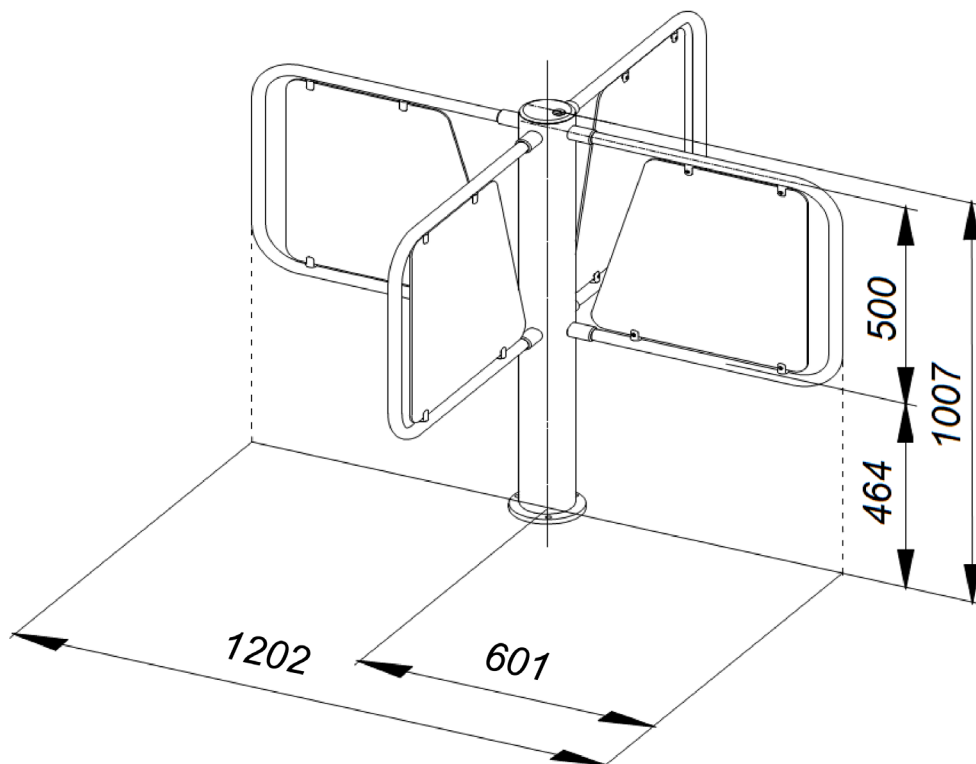
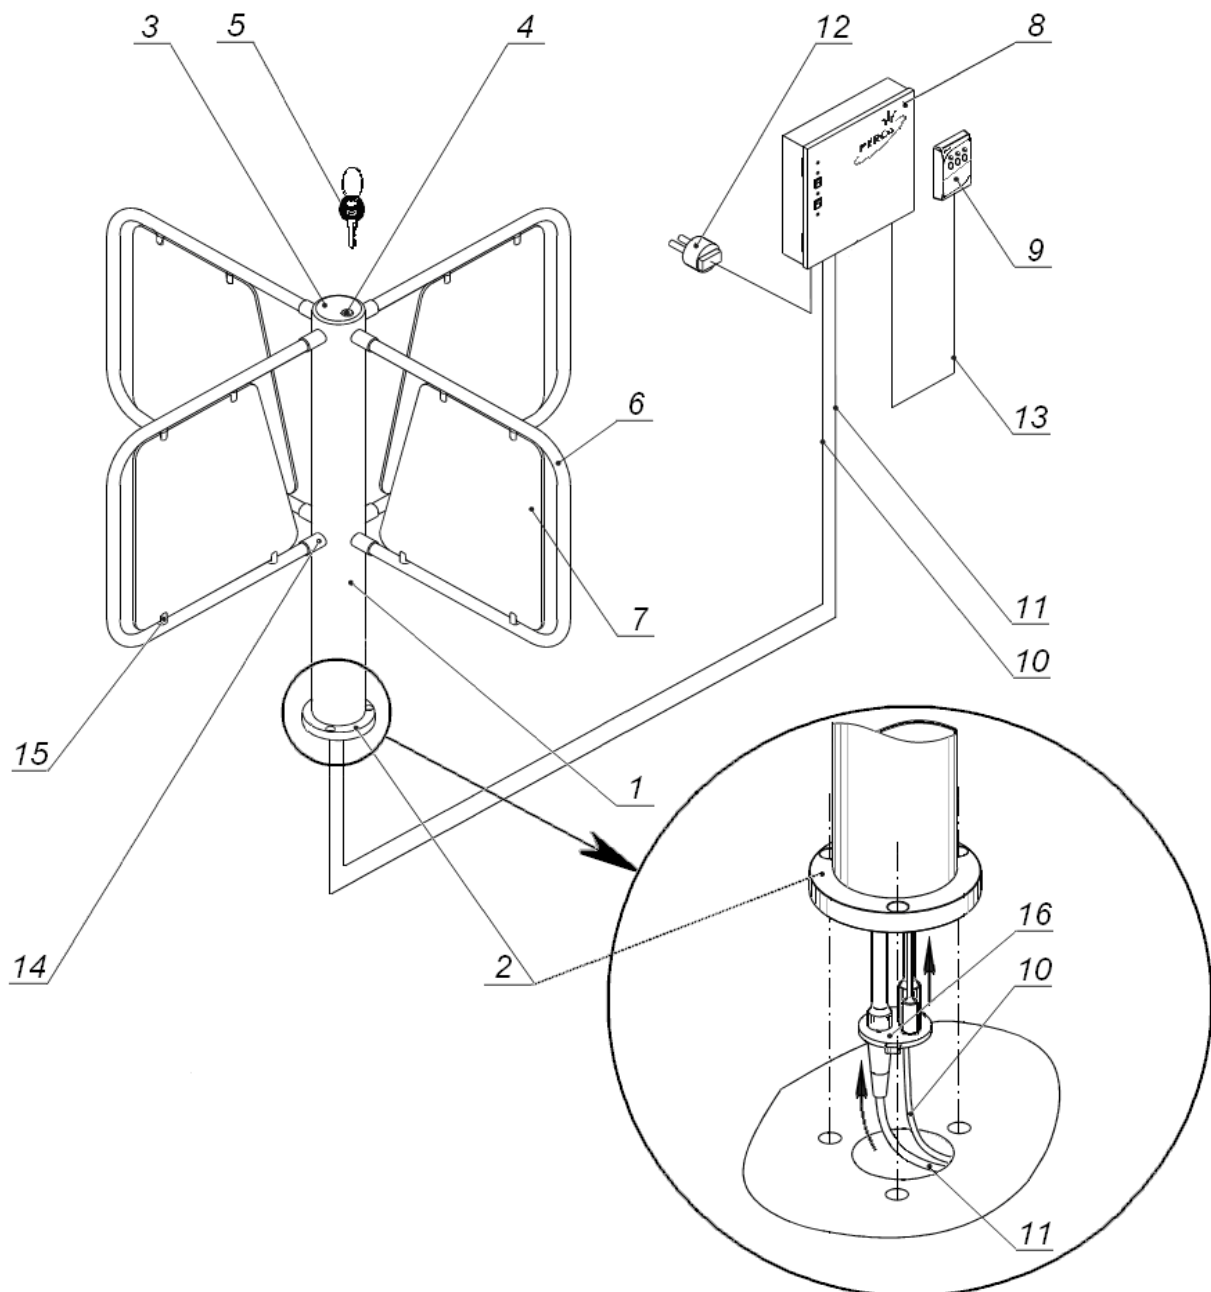

Figure 1. Dimensions of the RTD-03S waist-high rotor turnstile
Figure 2. RTD-03S waist-high rotor turnstile overall view
Turnstile overall dimensions, see Fig. 1, (length × width × height)	1202×1202×1007 mm
The turnstile overall dimensions are given in Fig. 1. The design of the turnstile is shown in Fig. 2. Numbers in brackets correspond to Fig. 2.
The control unit (CU) (8) (see Fig. 2, 3) is intended for the turnstile units powering and control. It comes as a standalone unit in a metal case with the pull-resistant fasteners for wall mounting. The CU can also be desk-mounted.